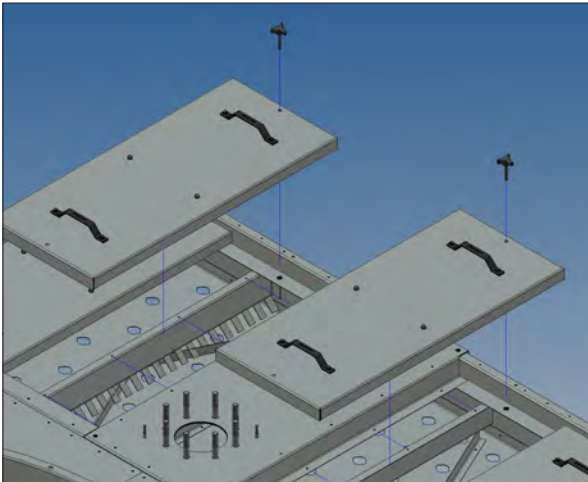

Figure 9. Hot Water Basin Cover Removal
The hot water basins are located on the fan deck. The system water enters the cooling tower through the hot water basins (refer to **Figure 9, page 25**). A series of nozzles, which distribute water over the fill, are located in the hot water basin. There are four materials of construction for the hot water basin: Galvanized steel, Thermosetting Hybrid Polymer, Type 304 stainless steel and Pultruded Fiberglass Reinforced Polyester (PFRP).
- To remove the covers turn the knobs to remove the threaded studs (**Figure 9**). Then, lift the hot water basin covers vertically by using the attached handles. Once the hot water basin covers are removed, the nozzles may be cleaned.